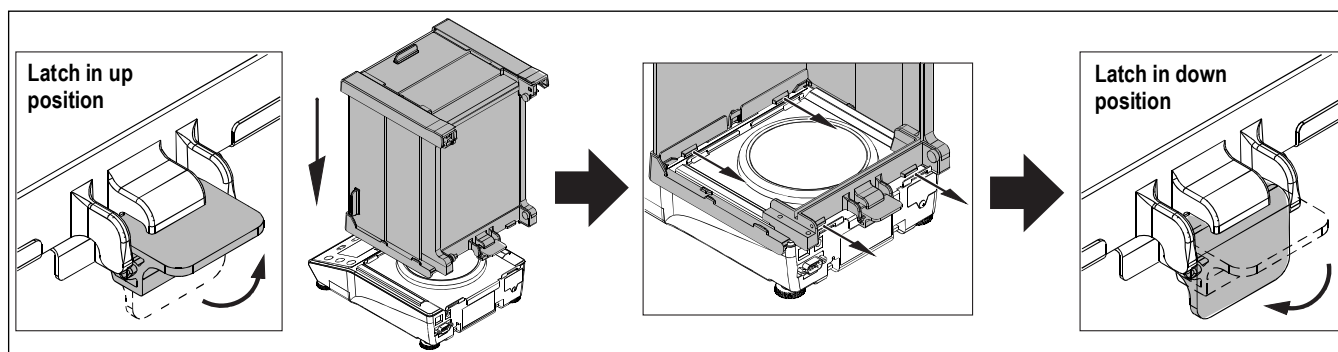

Figure 2-14. Install Draft Shield on Balance
15. Place the completed draft shield assembly on the balance as shown in Figure 2-14.